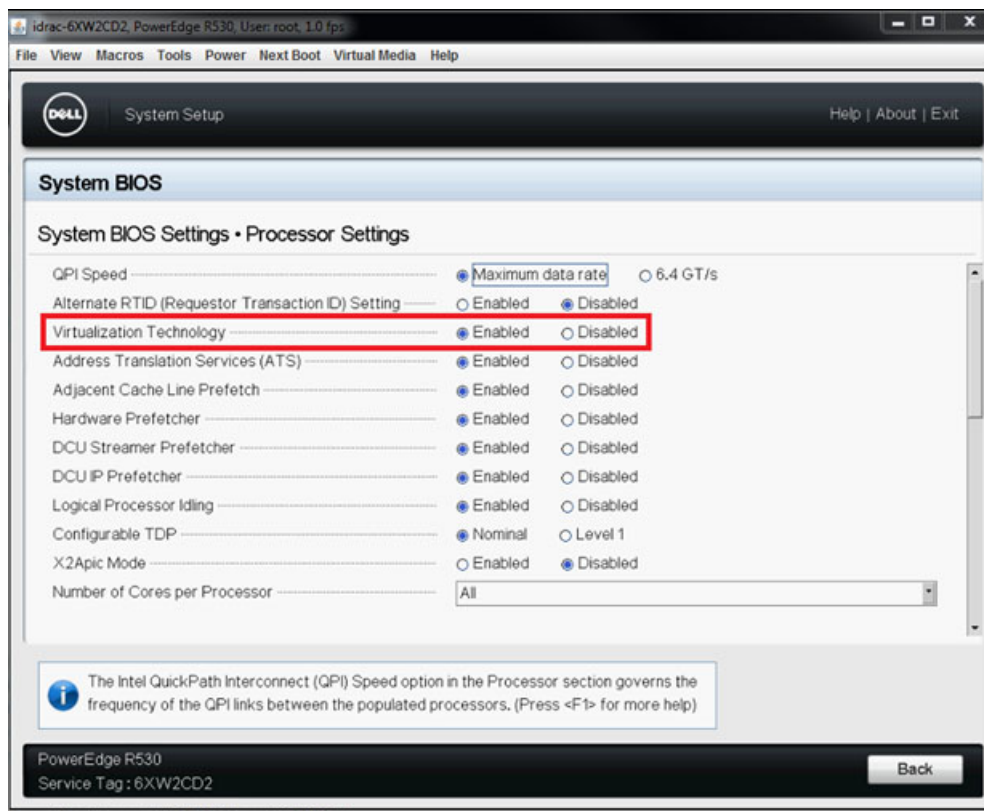

Figure 12-8. System Setup: Processor Settings for SR-IOV
5. On the Processor Settings (Figure 12-8) page: